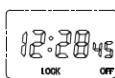

Figure 13
6.2.4 After setting, press “MD” for 3s, enter operation state, the time switch locks automatically, “LOCK” shows, and see Figure 13.